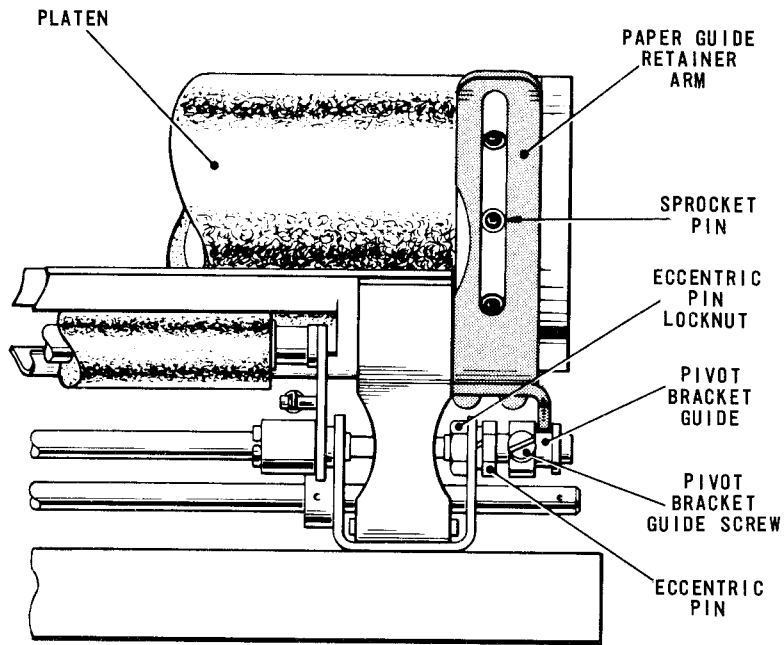

Fig. 4.40 PAPER GUIDE RETAINER
- 44.6 With the right-hand paper guide retainer arm, Fig.4.40, located in the groove in its pivot bracket guide, check that the slot in the retainer arm is positioned symmetrically about the right-hand sprocket pins. Repeat this check with the left-hand guide retainer arm.
- 45.1 Turn the platen by hand and check that the clearance between the paper guide retainer arms, Fig.4.40, and the platen is sufficient to allow the required thickness of paper to pass smoothly.